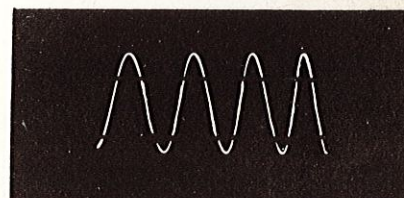

FIGURE 18
- () Set the SYNC. SELECTOR switch to the +INT. position, the HOR. GAIN control to 30, the VERT. ATTENUATOR switch to X10 and the VERT. GAIN control to 100. Now set the HOR/FREQ. SELECTOR to the line between 10 and 100 and adjust the FREQ. VERNIER to obtain a pattern consisting of four complete sine waves similar to that shown in Figure 18. This check indicates that the time base generator is operating normally at a frequency of $50/4$ or $12\frac{1}{2}$ cycles per second. Reduce the HOR. GAIN setting if necessary. The breaks are caused by the fields of the power transformer. This will not be present with the external signal.